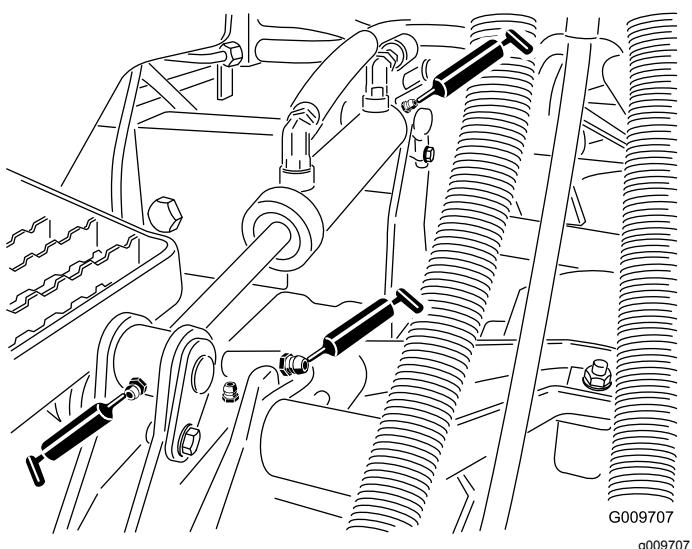

Figure 46
- Lift-cylinder bushings (2 per deck) (Figure 46)